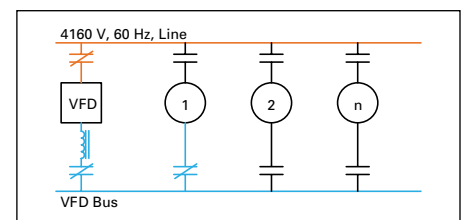

Figure 10.4-20. VFD Running Motor #1
- PLC opens bypass contactor (**Figure 10.4-20**)